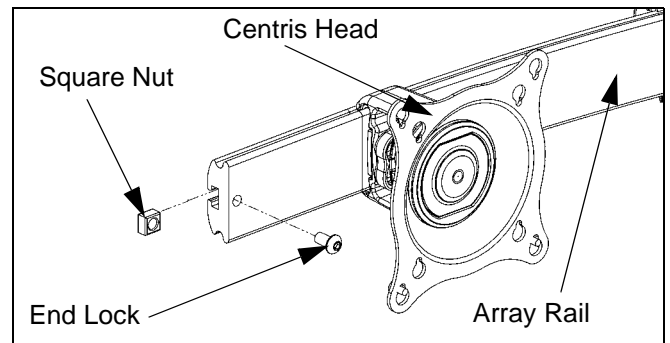

Figure 7: Remove End Lock(s)
1. Uninstall end lock using the 5/32" hex key (80). (See Figure 7)